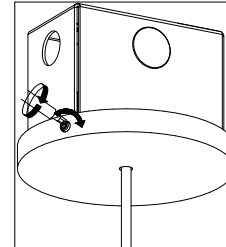

Figure 3: Canopy Mounting
6. Align and attach pendant base to mounting kit using [2] (provided) coupling nuts. [Figure 3 and 4]
6. Reattached canopy cover by turning set screw clockwise while pressing canopy cover firmly to base. [Figure 3]